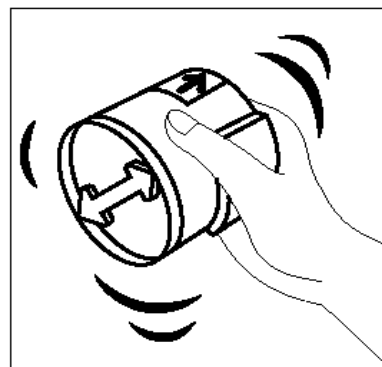

Figure 11: Shaking the Cartridge
- 6** Shake the cartridge from side to side, as illustrated in Figure 11.